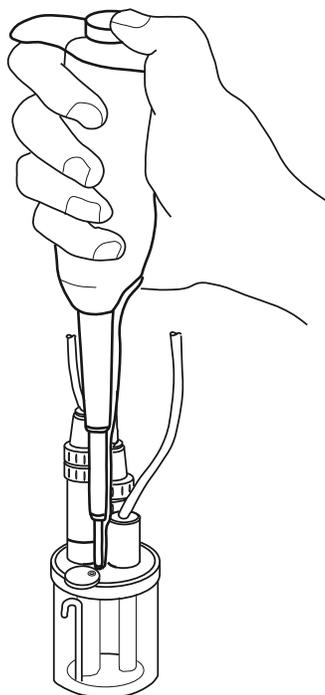

Figure 20: Pipet Dispensing
- Be sure to hold the pipet completely vertical while dispensing. Do not inject the standard onto the side of the flow cell, as a film may be retained on the inside of the wall, resulting in calibration precision errors. Refer to Figure 20.